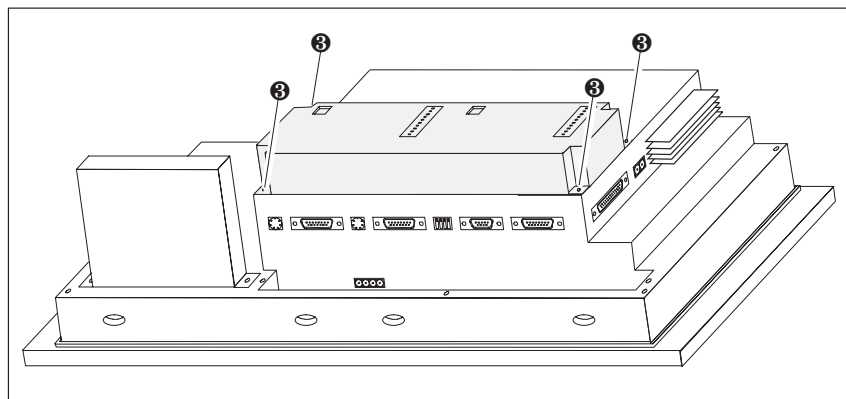

Figure 18-6 Securing the direct key module to the OP (example OP37)
4. Secure the direct key module to the OP using the four screws supplied ③ (see Figure 18-6).